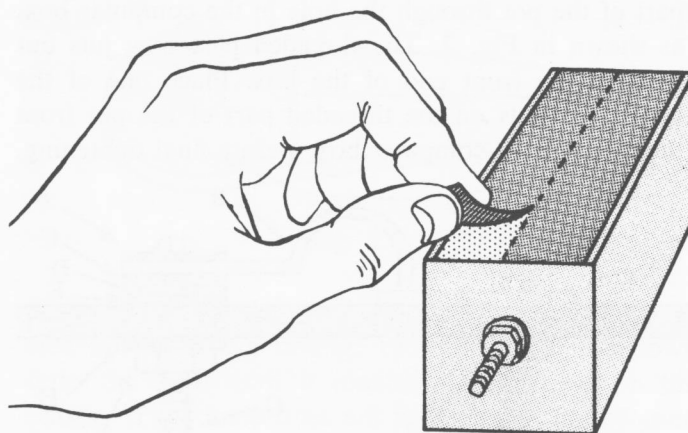

Fig. 4
4) There is a strip of special two-sided gummed tape in your kit. Cut off two pieces equal in length to the length of the cell boxes. Note that both sides of the tape have a slit running down the center along the length. This slit enables you to remove the protective covering from the tape. Peel off the protective layer on one side, and place the adhesive side of the tape against the side of the cell box that is labeled "Attach This Side to Surface," as shown in Fig. 4.